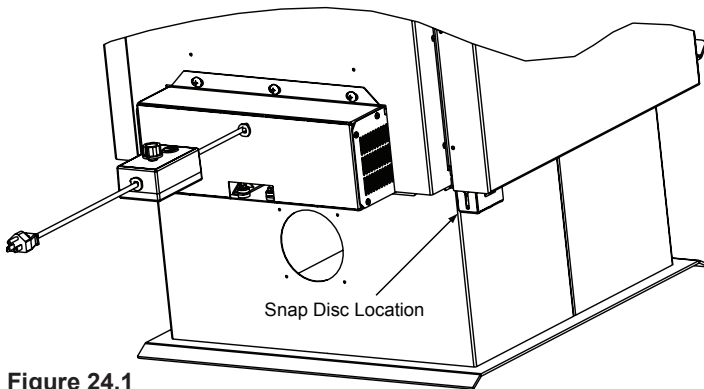

Figure 24.1
1. Disconnect power supply. Locate the snap disc bracket assembly at the bottom left rear corner of the appliance (**Figure 24.1**).